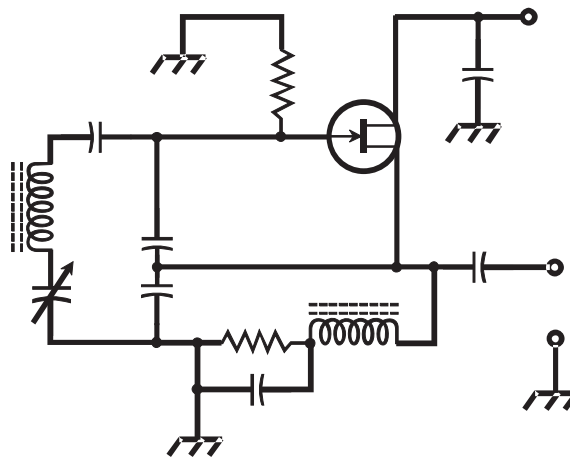

Fig. Test2-2. Illustration for Part Two Test Questions 14 through 18.
14. What type of circuit is shown in Fig. Test2-2? Assume the values of the resistors and capacitors are such that the circuit performs its intended function properly.
15. In the circuit of Fig. Test2-2, what should be connected to the terminal at the extreme upper right?
16. In the circuit of Fig. Test2-2, what might be connected to the pair of terminals at the extreme lower right in a practical application?
17. In the circuit of Fig. Test2-2, what type of component is represented by the circle with the lines and arrow inside?
18. If the variable capacitor in the circuit of Fig. Test2-2 is adjusted to increase its capacitance, what will happen?